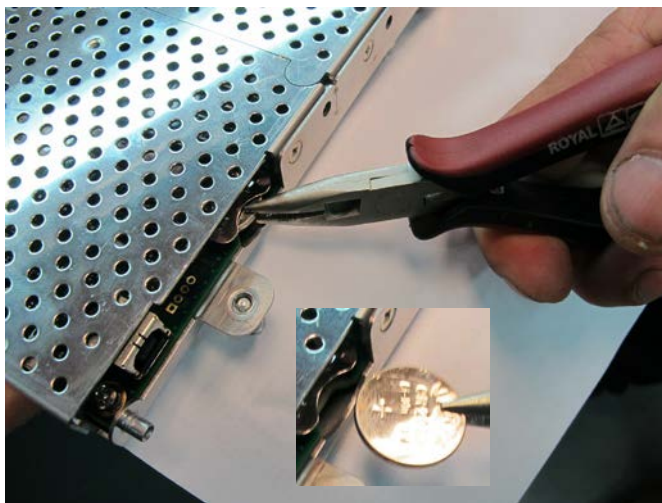

Figure 8-123 Removing the BIOS Battery from the BEP
- 3.) Using a pliers, carefully remove the battery from the BEP as shown in Figure 8-123 (observe that the positive pole is facing *upwards*).